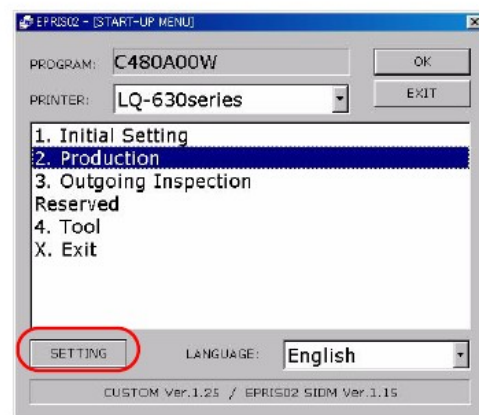

Figure 5-11. [START-UP MENU] Screen
3. Select [2. Production] from [START-UP MENU] screen and click [OK]. (See Figure 5-11.)